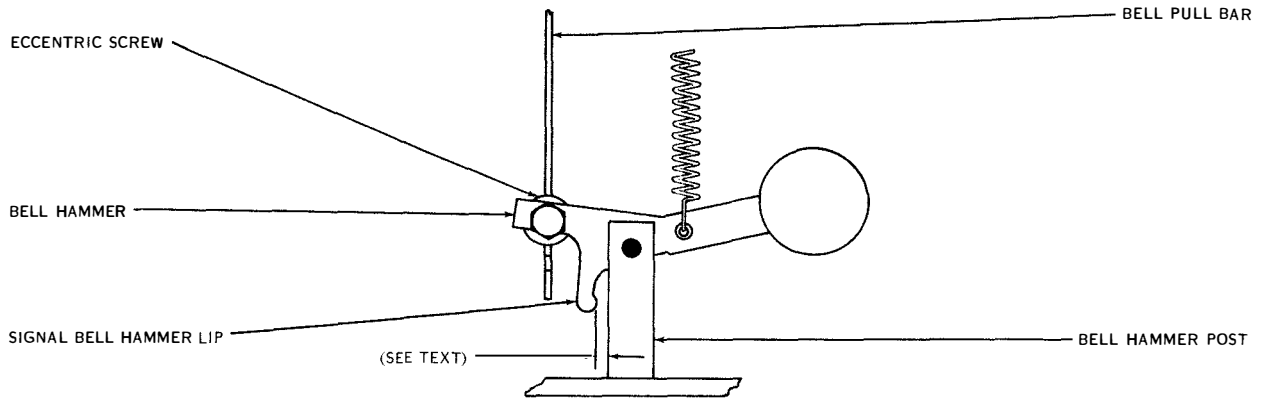

Figure 7-68. Bell Hammer
(88) **BELL HAMMER POST.** (See figure 7-68.)—The tip of the BELL pull bar toe should be in line with the outside surface of the bell hammer. To check, select the BELL pull bar and position the main bail at its highest point. Hold the bell hammer spring to one side and sight along the side of the bell hammer. To adjust, position the bell hammer post.
(89) **BELL HAMMER ECCENTRIC SCREW.** (See figure 7-68.)—Reperforators which do not have a type bar associated with the BELL pull bar should have 0.065- to 0.085-inch clearance between the bell hammer lip and the bell hammer post. To check, select the BELL pull bar and place the main bail in its uppermost position. Units which have a type bar operated by the BELL pull bar should have 0.020- to 0.040-inch clearance between the bell hammer lip and the bell hammer post. To check, select the BELL pull bar and hold the BELL type bar against the platen. To adjust, position the bell hammer eccentric screw, keeping the high part of the eccentric toward the rear. Hold the eccentric screw and tighten the lock nut.